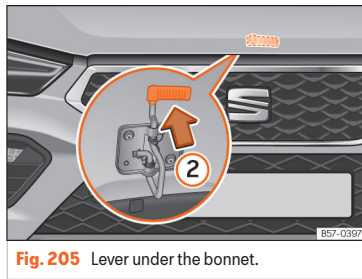

Fig. 205 Lever under the bonnet.
- To lift the bonnet, press the release catch under the bonnet upwards »» **Fig. 205** ②. The arrester hook under the bonnet is released.